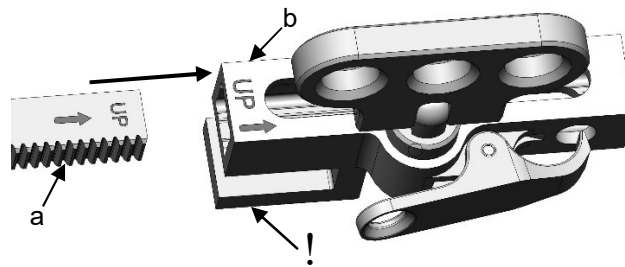

Fig. 7
**Important:** The coupling rider (b) must be aligned such that its U-profile is open in direction of the site (Fig. 7).